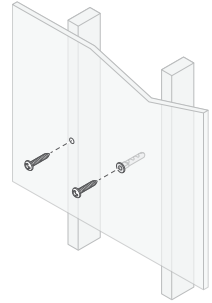

Figure 5
5. If you are certain that there is a stud behind the wall surface, drive #10/M5 screws (not included) through the wall and into the stud (see Figure 5).
6. If there is no stud behind the wall at the chosen location, install wall anchors (not supplied) into the wall by following the wall anchor manufacturer's instructions. Always use two wall anchors and two screws per speaker (see Figure 5). For wood surfaces and studs, use wood screws; for sheetrock or gypsum, use wall anchors; for masonry, use masonry anchors.